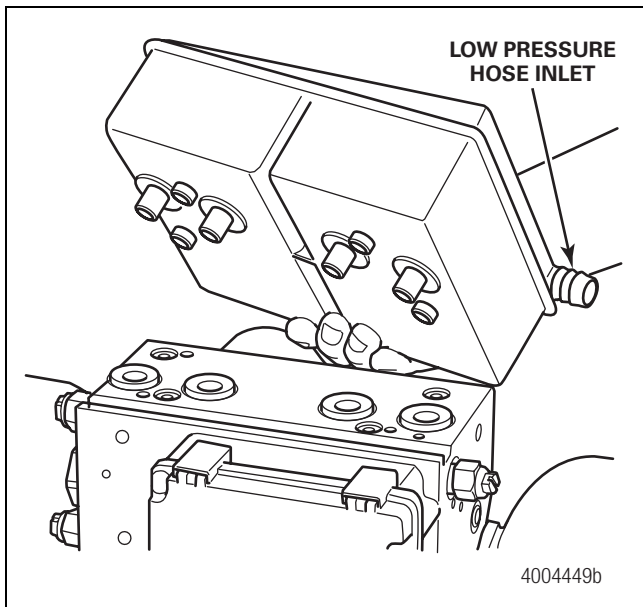

Figure 11
- Position the new reservoir provided in the kit on the HCU and verify the orientation. The mounting screw holes must line up and the inlet port for the low pressure hose must face the front of the HCU. Figure 11.
3. Connect the low pressure hose from the master cylinder reservoir to the HCU reservoir and secure the connection with a hose clamp. Figure 11.